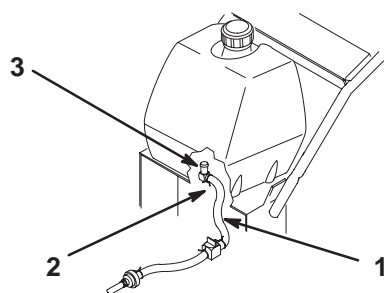

Figure 12
3. Push fuel line onto fuel tank fitting and secure with hose clamp (Fig. 12).